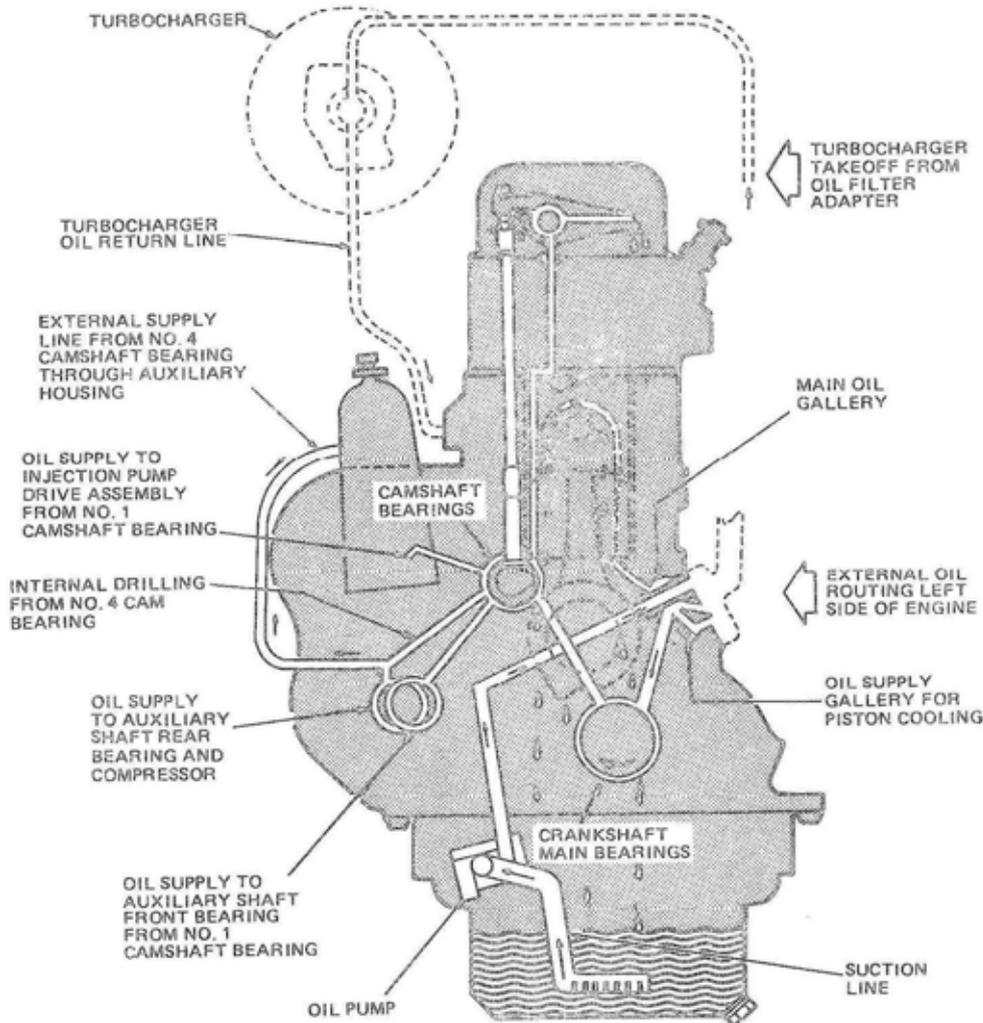

Figure 8 Front Schematic View – Engine Oil System
24. The oil flows from the main oil gallery to the crankshaft main bearings; from there to the con-rod big end bearings, the camshaft bearings and also the valve rocker arm shafts. Oil from numbers one and four camshaft bearings is directed to the auxiliary shaft bearing; from there oil is fed by an external line to the injection pump and by internal drillings to the compressor crankshaft (Figure 8).